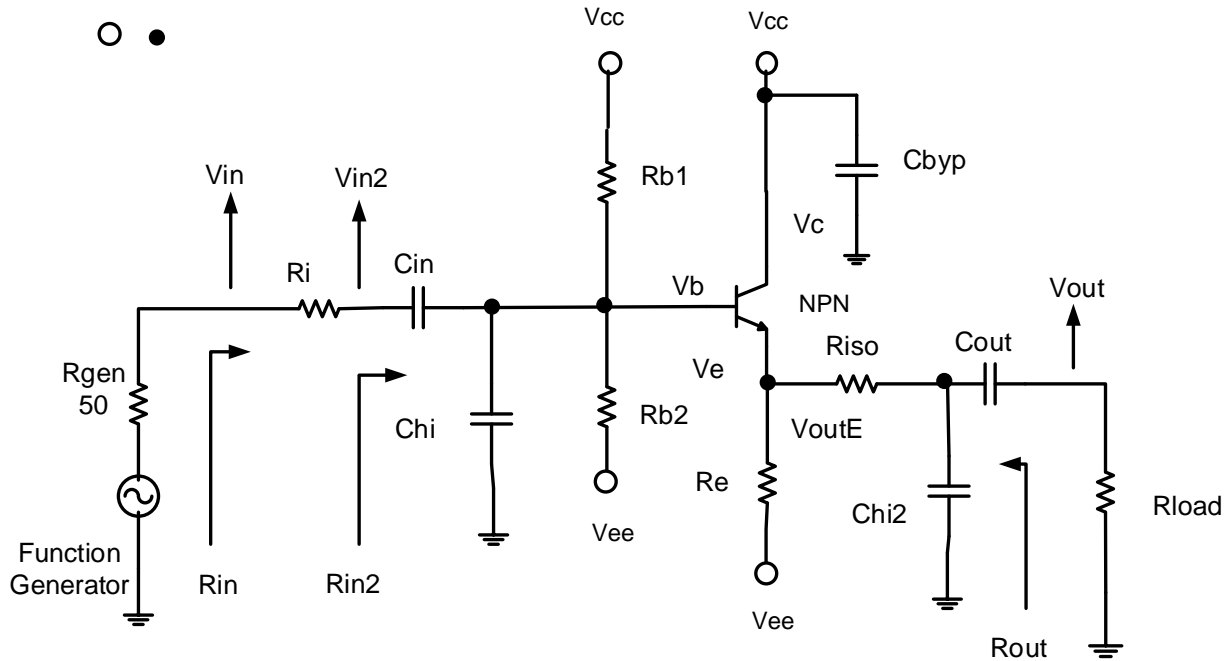

Figure 1. Common-collector amplifier circuit.
Design a common-collector amplifier using the schematic shown in Figure 1 and meeting the requirements in table 1. You should refer to your class notes, textbook, instructor, and other reference material to help you design the circuit. Start with the DC design and then move onto the AC design. Find r_o , β_{AC} and β_{DC} from the CC transistor curves (higher current).
6.1. Construct the CC amplifier shown in Figure 1. Remember that R_{gen} is internal to the function generator and is not in your circuit. The bypass capacitor C_{BYP} needs to be connected as close to the BJT collector pin as possible. Check the power ($I_E^2 R_e$) in the R_e if it is greater than **250mW** use two emitter resistors to equal your design value (R_e) either in series or parallel. Record the values of the bias network resistors and the capacitors you used in the circuit.